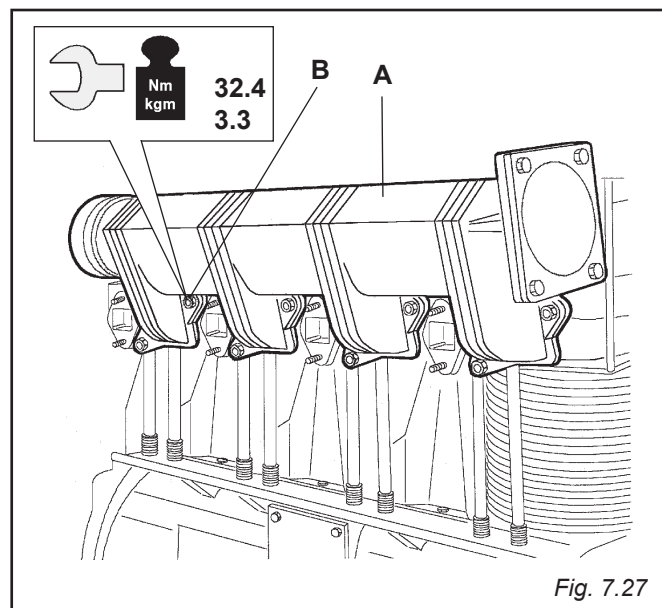

Fig. 7.27
7.28 INTAKE MANIFOLD (FIG. 7.27)